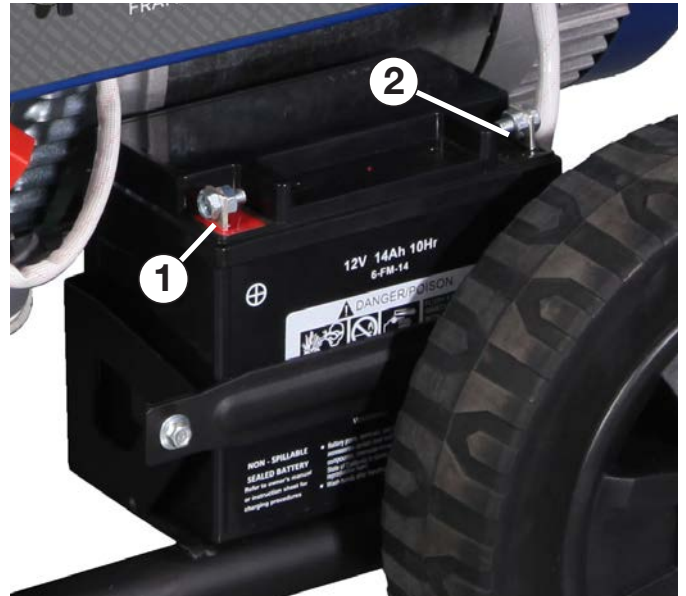

Figure 5 - Attaching the Negative (-) Battery Wire (black)
4. Pull back the black boot and securely attach the negative (-) battery cable (black boot) to the negative (-) battery post as shown in Figure 5. Replace the black boot so it protects the cable lug and battery post.